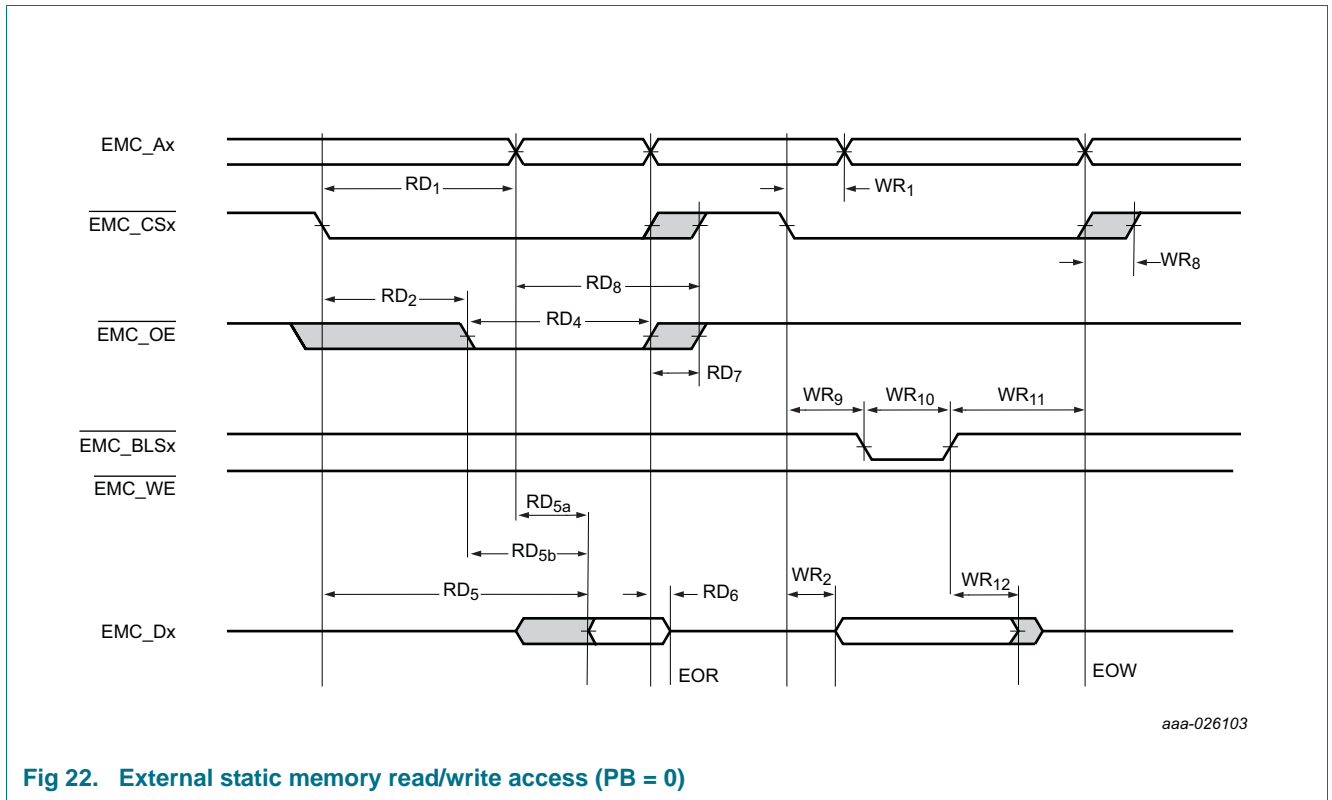

Fig 22. External static memory read/write access (PB = 0)
- [1] Parameters are shown as RD_n or WD_n in Figure 22 as indicated in the Conditions column.
[1] Parameters are shown as RD_n or WD_n in Figure 22 as indicated in the Conditions column.